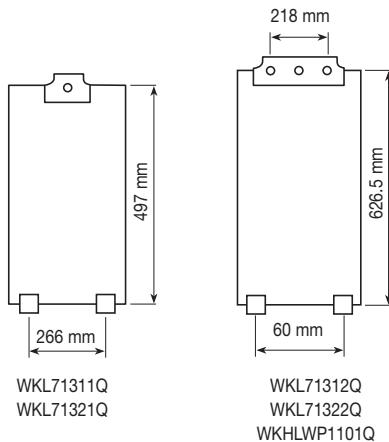

Fig. 5
Drill holes according to Fig. 5. Place expanding pin in the upper hole and plastic bushes in the lower holes. Fit the water heater in upper pin without tilting it and then fit screws into lower bushes and tighten them.
- Drill a hole on the wall according to duct dimensions as per Fig. 5.